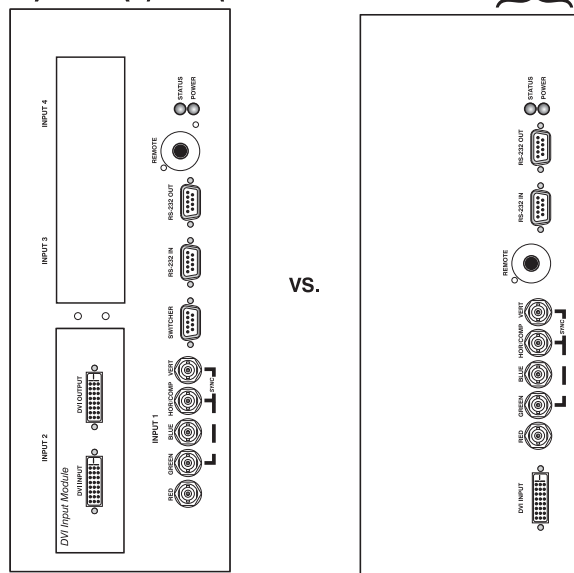

Figure 2.1. Comparing connector availability between model models
A variety of external sources can be connected to the input ports on the Electronics Module (EM) main input panel. Figure 2.1. illustrates the differences between EM models *D100U* (left) and *D100UF* (fixed frequency shown on right).
NOTE: The EM is vertically mounted to the projector's mounting rails (orientation illustrated in Figure 2.1.). For the purpose of illustrating source connections, it will be shown in a horizontal position.